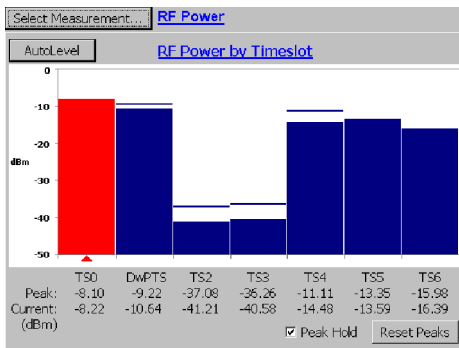

Figure 3-41: TD-SCDMA RF power measurement
4. Tap **RF Power**. The instrument displays the TD-SCDMA RF Power results (Figure 3-41). Table 3-16 describes the TD-SCDMA measurement fields and controls.